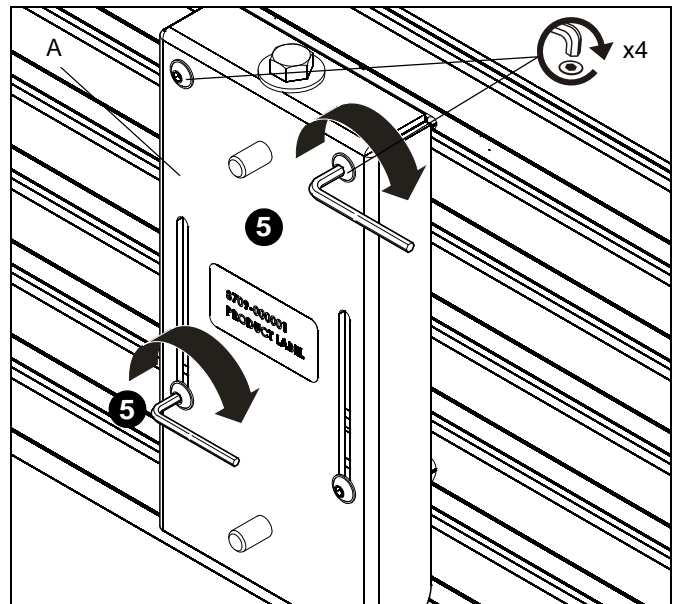

Figure 3
5. Tighten two upper and lower button head cap screws to secure wall bracket (A) to wall. (See Figure 3)
6. Repeat for second wall bracket (A).